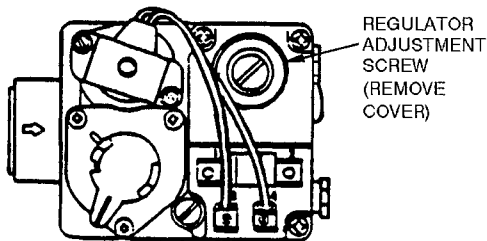

Fig. 35 — Gas Valve
6. Remove screw cap covering regulator adjustment screw (See Fig. 35).